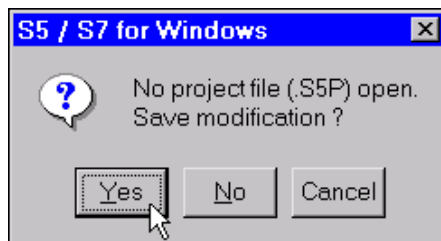

Figure 3-5 *S5 / S7 for Windows* prompt to save the new project.
- ◆ If all S7 Blocks of a project are converted back into S5 Blocks the program is saved in a format that older *S5 for Windows* version (prior 4.0) can open. A corresponding warning (figure 3-5) is displayed.